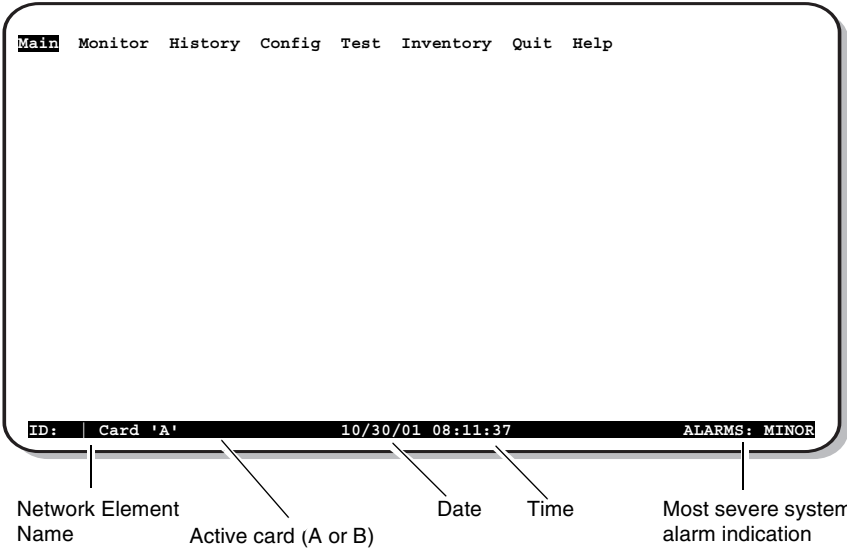

Figure 11. HXU-359 Management Screen
- 4 When the ADC banner appears on the screen along with a prompt to enter a password, type `public` (default password), then press **ENTER**. The HXU-359 main menu appears (Figure 11 on page 16).